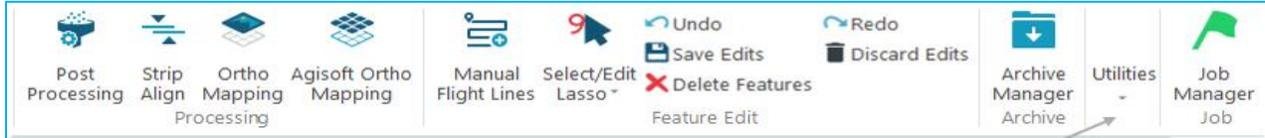
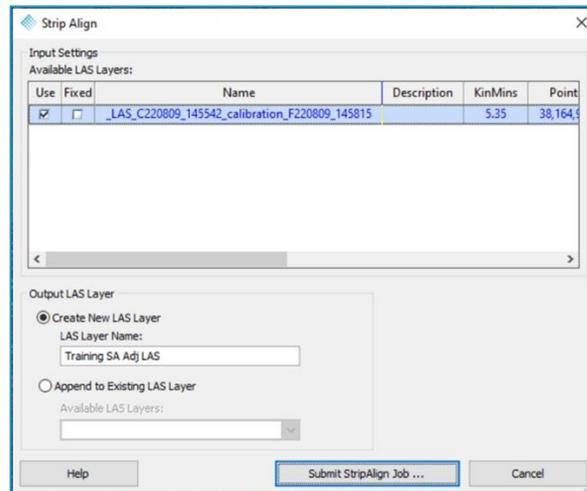

Figure 102 - Strip Align on the Sensor tab
Figure 103 – Strip Align dialog
- 13. Select **Strip Align**  on the Sensor tab (Figure 102) to open the Strip Align dialog (Figure 103). **Note:** To enable this tool requires a Strip Align addon license to be checked out in addition to the LP360 Drone license.